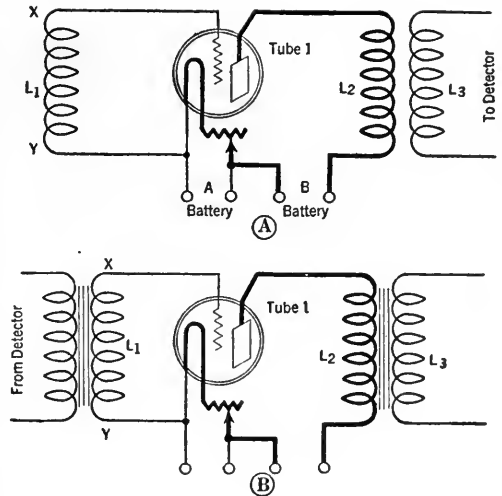

FIG. 10
Both amplifying systems function in the same manner—i. e., through the repeating and amplifying action of the vacuum tube. Referring to diagram A in Fig. 10, let us assume that a radio frequency current is flowing in L1. This would be the case during reception if this coil were the secondary of a vario-coupler or a previous amplifying transformer. Thus the polarity at the terminals of the coil, X and Y, will change periodically, depending on the frequency of the station being received. For one fraction of a second X will be plus and Y negative, and in the next instant, Y will be plus or positive and X minus or negative.
Transformer-coupled audio frequency amplification (amplification after the detector) is effected in the same manner, which is easily followed in diagram B of Fig. 10. Audio frequency alternating current is applied across the terminals  $X$  and  $Y$  of  $L_1$  instead of high or radio frequency current, and a magnified duplicate is caused to flow in  $L_3$ . Audio frequency transformers, in order to meet the particular conditions under which they must operate, are wound on iron cores which are diagrammatically expressed by the lines between the primary and secondary coils.
**PLATE CIRCUIT:** The path of the current supplied by the plate or B battery, i. e., through the B battery, the filament of the tube, across the space within the tube to the plate, through whatever coils, such as loud speaker or telephone receiver windings, transformer primary or variometer, that may be included in the circuit and back to the B battery. The plate circuits in Fig. 10 have been drawn with heavy lines.